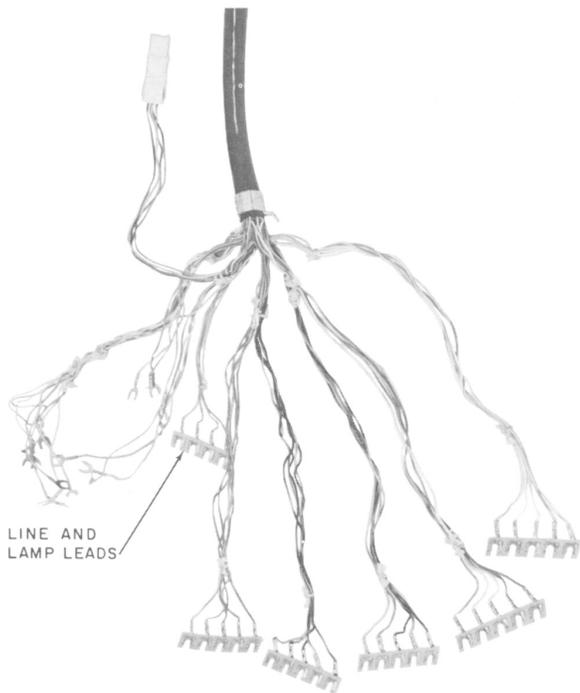

Fig. 1—Mounting Cord Used With 636A Key
**2.08** Mounting cords designed for use with 636A key assemblies feature slotted wafer sections for each line appearance (Fig. 1). This allows easy arrangement of lines to pick-up buttons.